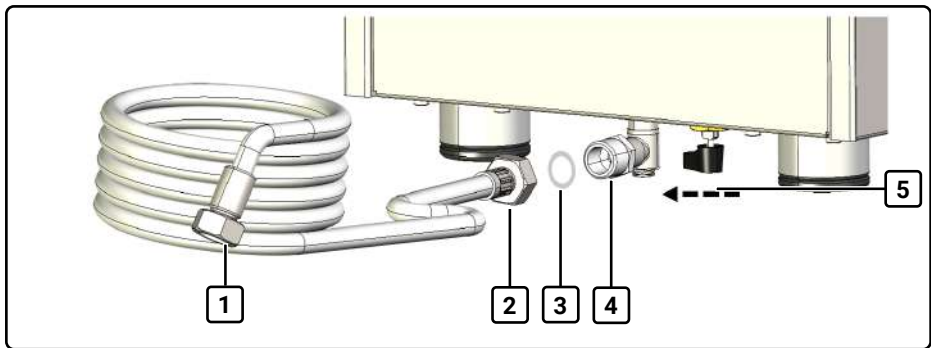

Fig. 5 Rear view with rotary valve and water connection nozzle
2. Screw the water connection hose (2, Fig. 5) included in the scope of delivery to the water connection nozzle (4, Fig. 5) on the underside of the machine. Use the gasket (3, Fig. 5) for this.
4. Connect the water connection hose (1, Fig. 5) to the water supply.
5. Move the rotary valve (5, Fig. 5) into the mains water position. The valve points towards the water connection nozzle (4, Fig. 5).